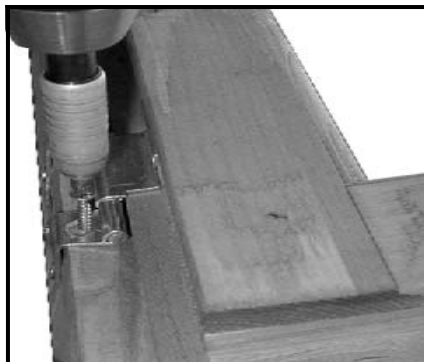

Fig A15
25. Open the window fully in order to fit a further 2x 25mm screws per hinge (Fig. A15).